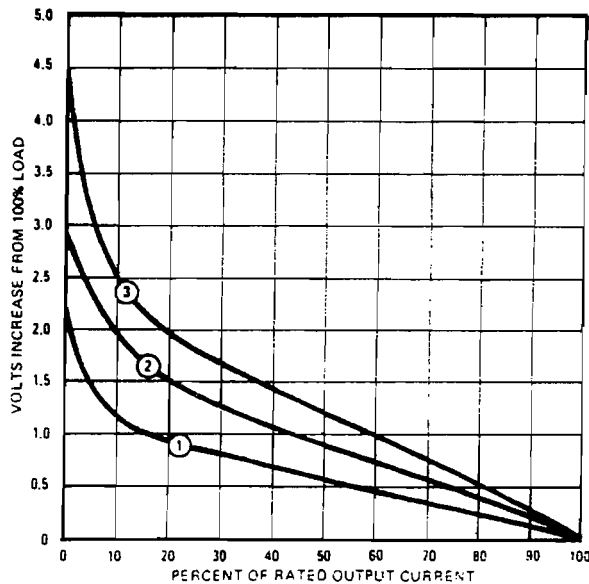

FIG. 2 TYPICAL LOAD EFFECT CURVES FOR PRR MODELS
LOAD EFFECT: See Table 1 and applicable load effect curve in FIG. 2.
OUTPUT VOLTAGE ACCURACY: Within  $\pm 2\%$ , or 0.25V, whichever is greater, of the specified output voltage, at nominal source voltage, 30°C ambient temperature, at maximum load and following a 30-minute warm-up period. Allow for an initial (cold) voltage approximately 1% higher than the specified output voltage accuracy. The output voltage increase at output current levels less than the maximum rated may be read from the load effect curves (FIG. 2) and must be added to the nominal output level.
- OUTPUT IMPEDANCE:** The impedance at d-c and at frequencies below 10 KHz is a function of the load effect curves shown in FIG. 2. It may be determined from the slope of the plotted curves ( $Z_o = \Delta E_o / \Delta I_o$ ). The output impedance at frequencies above 10 KHz can be computed by adding the effect of a 2  $\mu$ H series inductance to the low frequency value found in FIG. 2.